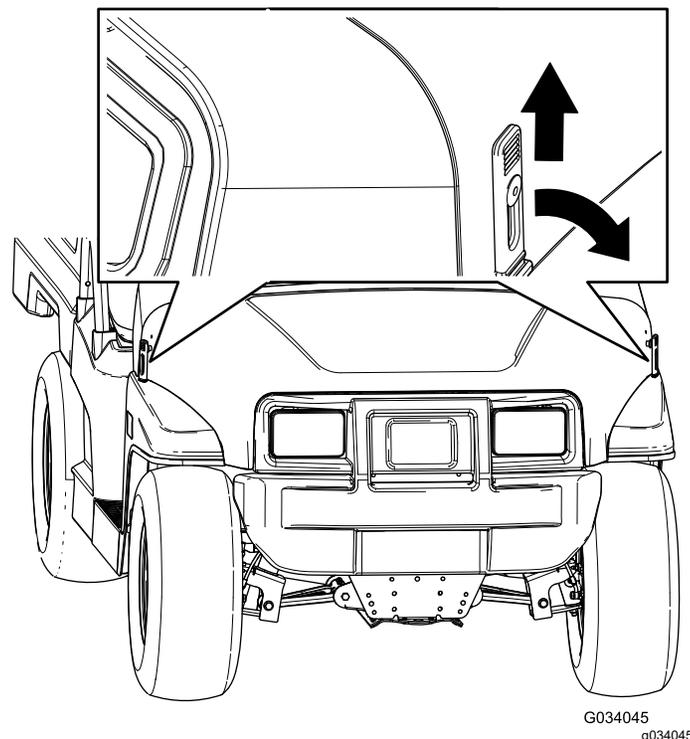

Figure 23
1. Lift up the handle of the rubber latches on each side of the hood (Figure 23).
2. Secure the hood by aligning the rubber latches onto the latch anchors on each side of the hood (Figure 23).